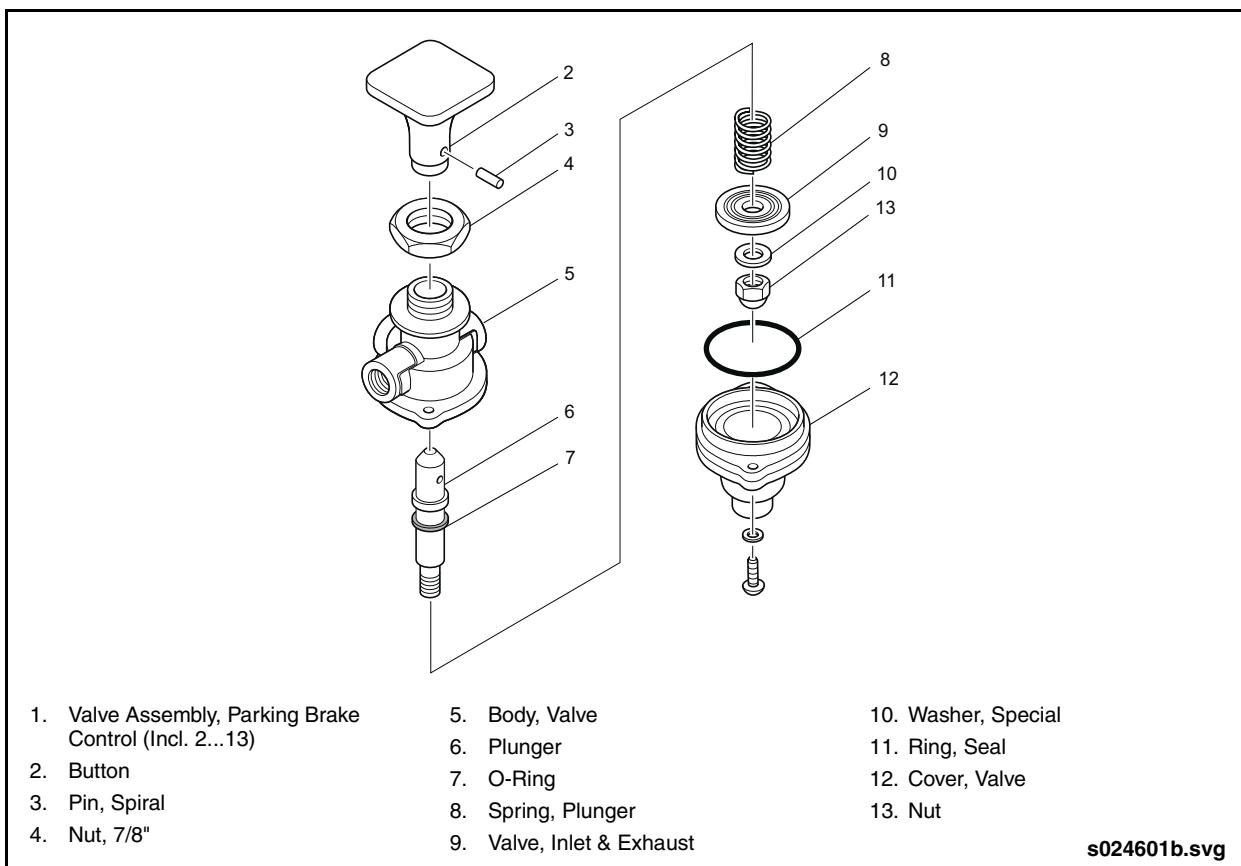

Fig. 8-26: Parking Brake Control Valve Assembly
2. Insert a small punch through roll pin hole in stem and remove lock nut with a 7/16" wrench. See ""Fig. 8-26: Parking Brake Control Valve Assembly" on page 87.